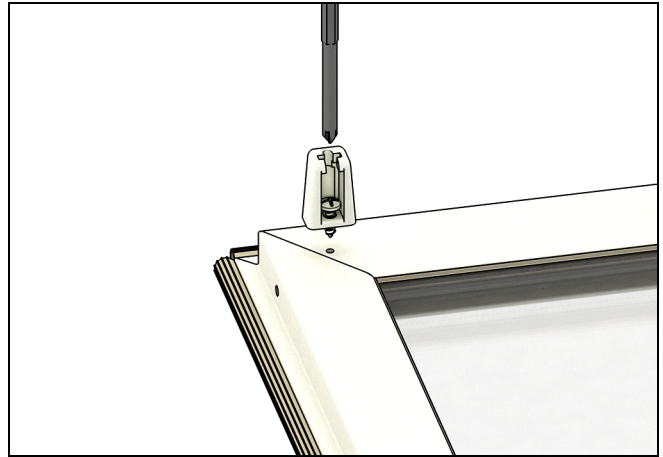

Figure 6 Correct orientation of tether plug.
11. Using a T20 Torx bit and driver, attach the tether plug to the sash with a #8-18 x 3/4" Torx T20 screw. See Figure 6.